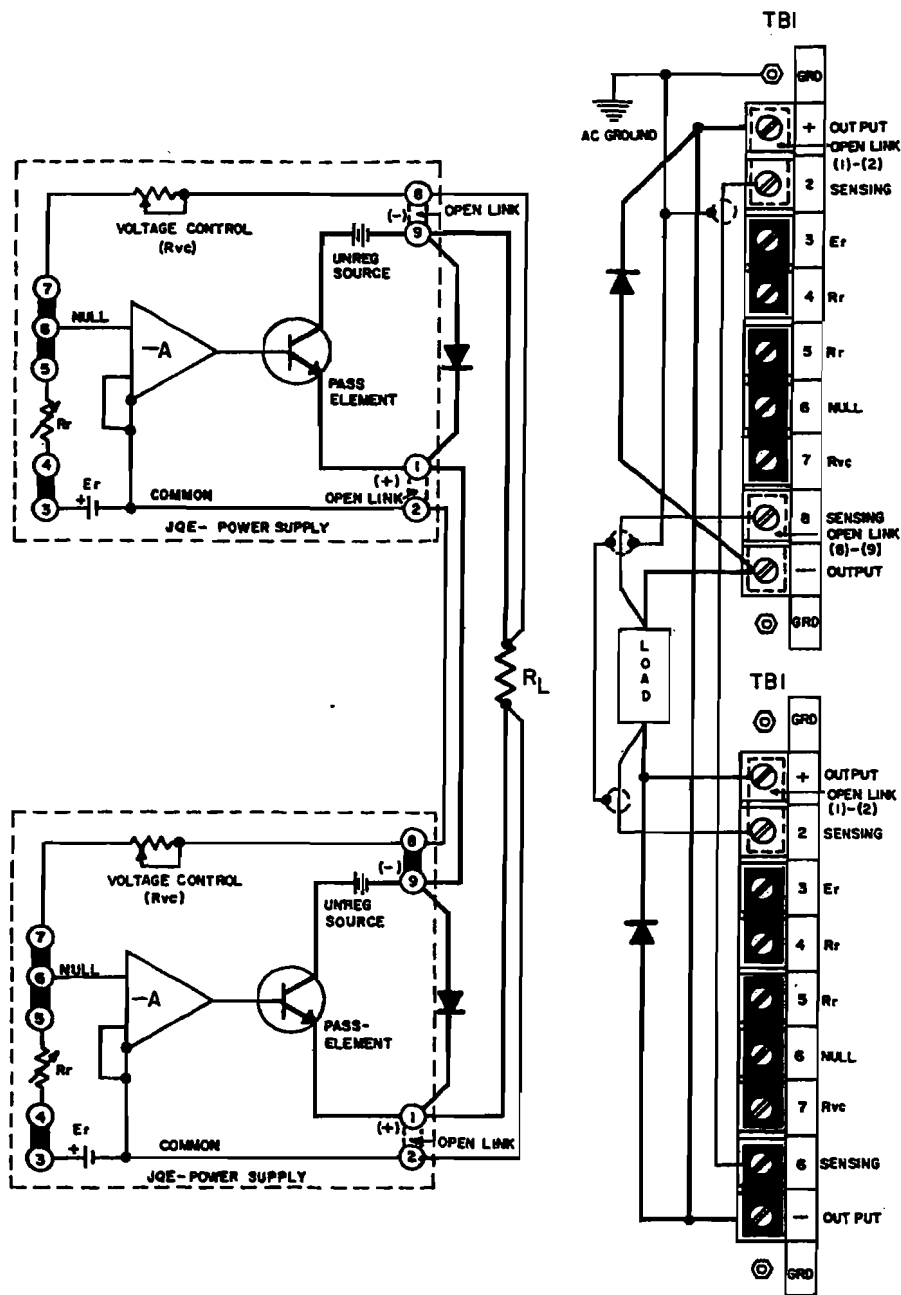
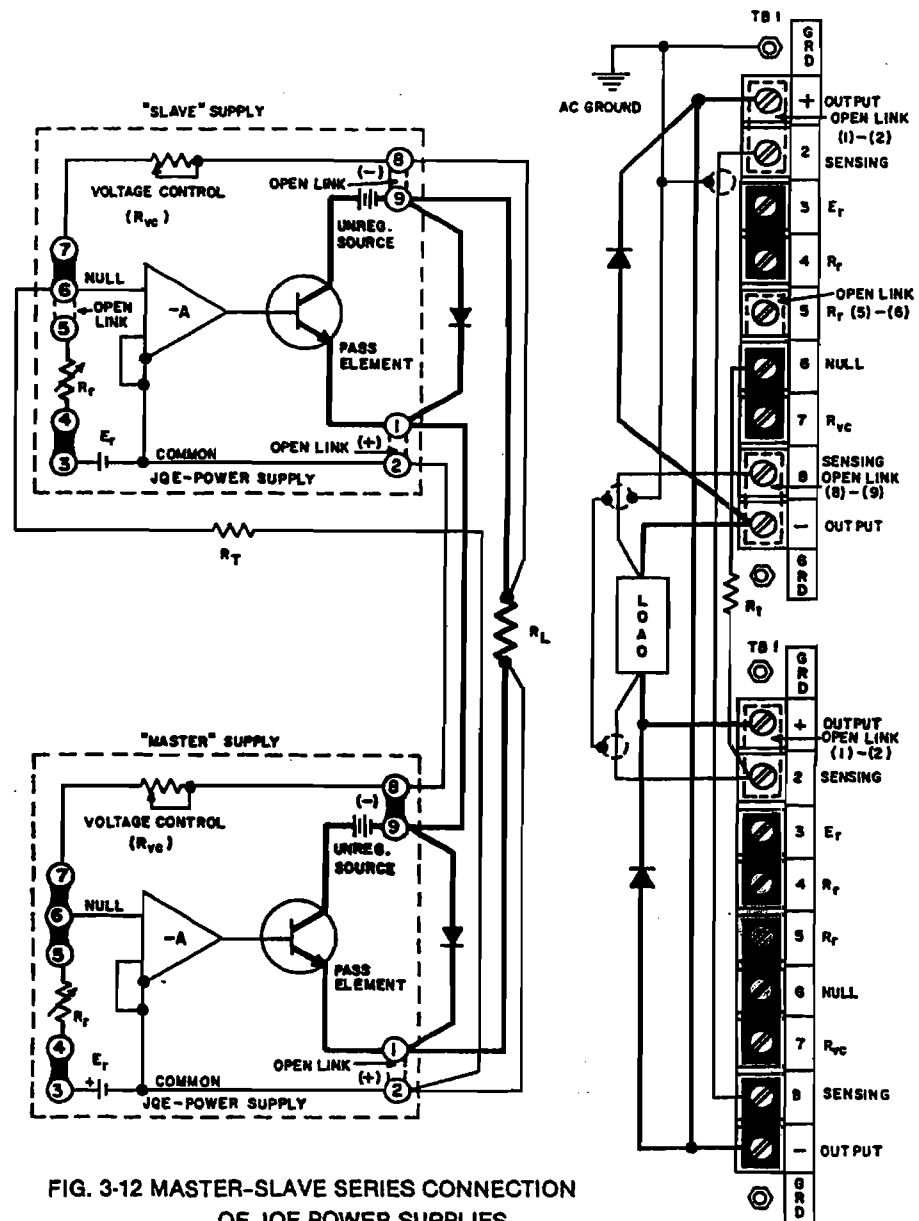

FIG. 3-11 AUTOMATIC SERIES CONNECTION OF JQE POWER SUPPLIES
FIG. 3-12 MASTER-SLAVE SERIES CONNECTION OF JQE POWER SUPPLIES
3-35 GENERAL. Kepeco JQE Power Supplies can be series-connected for increased voltage output, provided the specified limits on voltage to chassis are not exceeded. When series-connected, the supplies should be protected by means of a semi-conductor diode across the output terminals of each power supply, as shown in FIG. 3-11. The peak inverse rating of these diodes must be at least as large as the output voltage of the supply to which they are connected. The continuous current rating of the diodes should be at least as great as the maximum output current of the interconnected supplies.
- Connect load as shown in FIG. 3-11. Keep voltage drop in load wires as low as practical by using heavy gauge wire.
3-37 An alternate method of series-connecting two or more power supplies is shown in FIG. 3-12. The basic difference between the "Automatic" series connection, shown in FIG. 3-11, and the "Master-Slave" connection (FIG. 3-12) is that with the former connection the outputs of both supplies may be controlled or programmed individually, while with the latter method only the "Master" supply is controlled, while the "Slave" supply follows the command of the "Master" in a ratio which may be pre-determined by the user. The "Master-Slave" series connection is therefore often termed an "Automatic Tracking" configuration.
As seen from FIG. 3-12, the reference voltage of the "Slave" supply is disconnected and its input (null junction) is connected (via R_t) to the output of the "Master" supply. Since the control current for the "Slave" supply is thereby derived from the "Master", the "Slave" output is thus completely dependent on the "Master" supply output:
As seen from the equation, if the tracking resistor (R_t) is made equal in value to the voltage control resistor of the "Slave" (R_{vcs}), a tracking ratio 1:1 is achieved, and the output of the "Slave" will equal that of the "Master". If a single load is connected to the series combination (FIG. 3-12), twice the "Master" output is applied to it. If separate loads are connected, identical voltages are applied to the individual loads. The ratio E_{os}/E_{om} can be readily changed if the application so requires by simply changing either R_{vcs} or R_t .
- Connect load(s) as shown in FIG. 3-12.